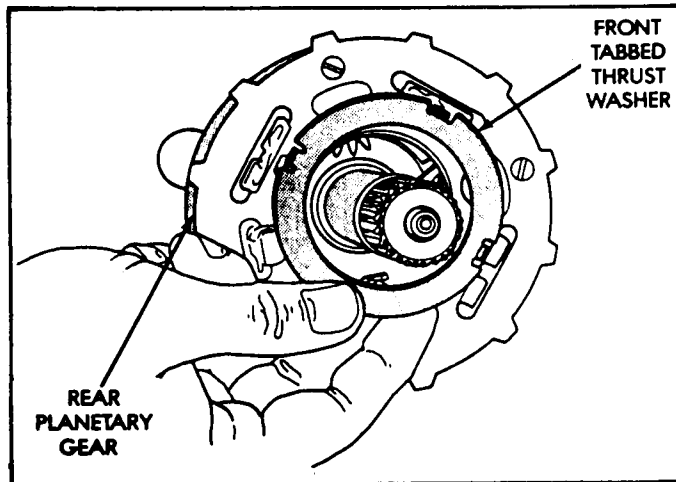

Figure 75
7. Install front thrust washer on the rear planetary, as shown in Figure 75, and retain with Trans-Jel.